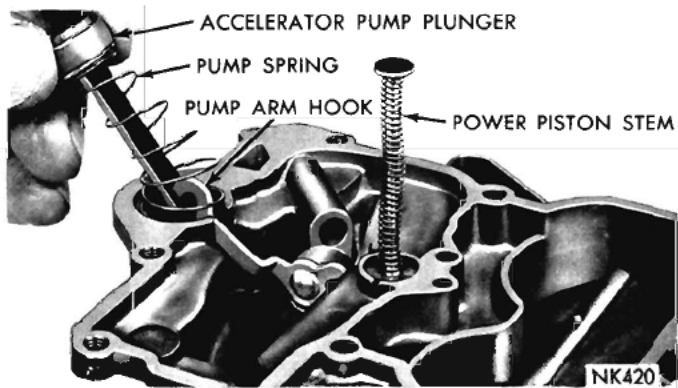

Fig. 4—Removing or Installing the Accelerator Pump Plunger
(1) Disengage the accelerator pump plunger from the pump arm hook by tilting down and out from under hook, as shown in (Fig. 4). Remove the compression spring.